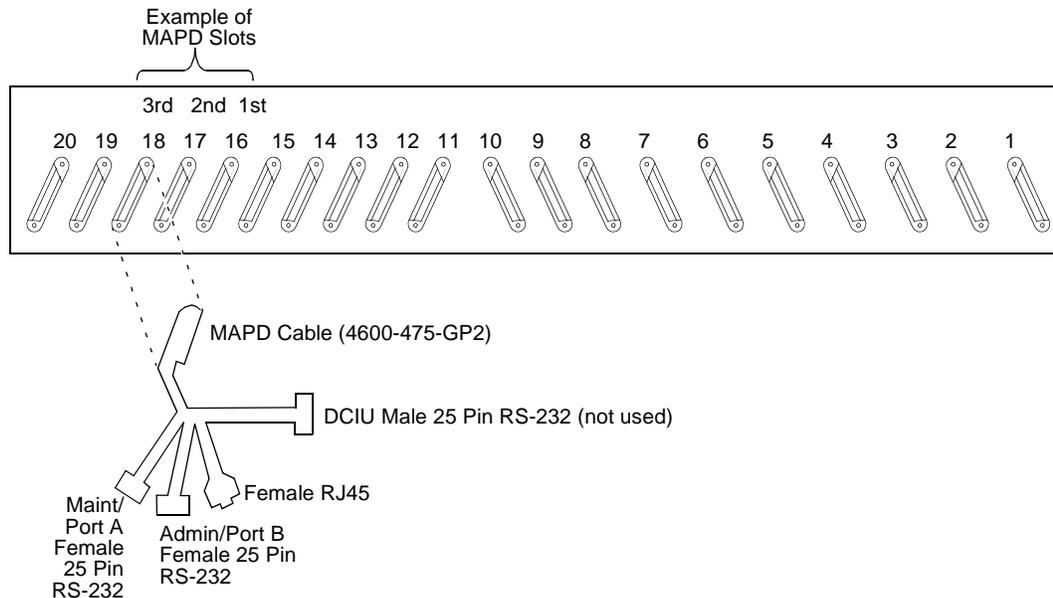

Figure 2-3. Connecting the Adapter Cable, Rear-Panel View
The slots are numbered from left to right on the front panel of the switch cabinet, and from right to left on the rear panel as shown in Figure 2-3, "Connecting the Adapter Cable, Rear-Panel View." The three port slots are occupied by the MAPD system assembly as follows:
2. Referring back to Figure 2-3, “Connecting the Adapter Cable, Rear-Panel View,” and the instructions that follow, connect the MAPD system assembly adapter cable to the port connector on the back of the switch.